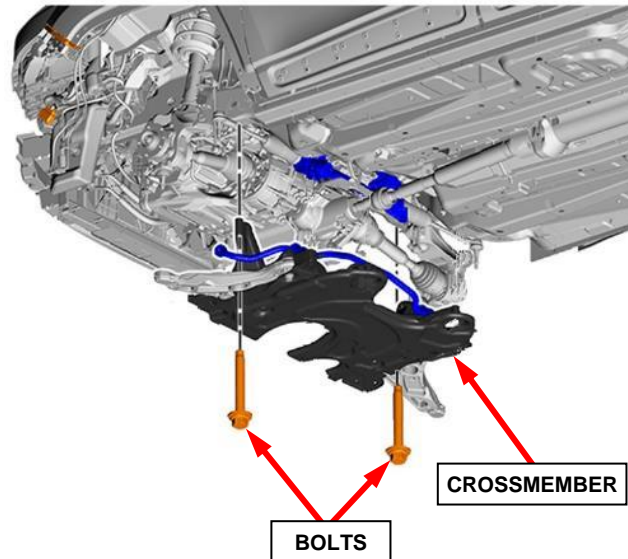

Figure 75 – Crossmember Upper Bolts
51. **AWD/4WD only:** Remove the two upper front tower bolts securing the suspension crossmember to the frame rails (Figure 75).